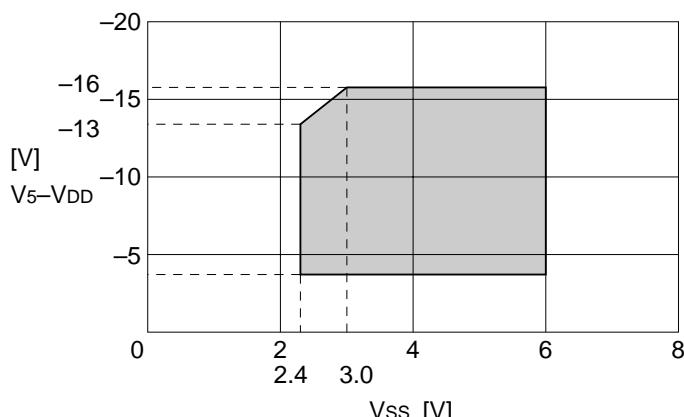

Figure 11
- \*2. The operating voltage range of the VSS and V5 systems (see Figure 11). The operating voltage range is applied if an external power supply is used.
- \*3. Pins A0, D0 to D7, RD (E), WR (R/W), CS1, CS2, FR, SYNC, M/S, C86, SI, P/S, T1 and T2.
- \*6. Pins A0, RD (E), WR (R/W), CS1, CS2, CL, M/S, RES, C86, SI, SCL, P/S, T1, and T2.
- \*8. The resistance when the 0.1-volt voltage is applied between the "On" output terminal and each power terminal (V1, V2, V3 or V4). It must be within the operating voltage (2).